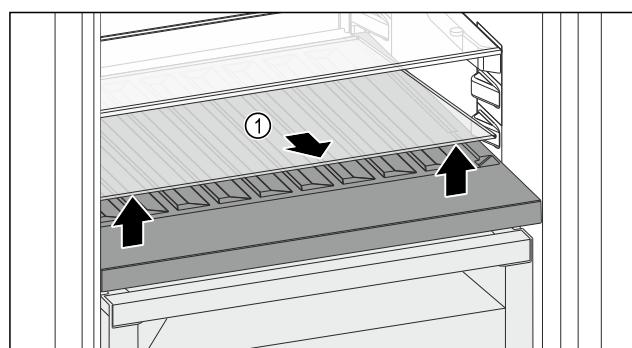

Fig. 108
► Lift the glass shelf Fig. 108 (1) at the front and remove.
► Store the glass shelf Fig. 108 (1) in a safe place outside the appliance.